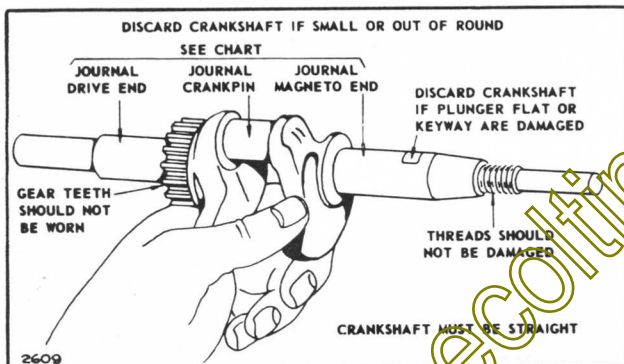

FIGURE 8-1
1. See the crankshaft wear chart. Discard any crankshaft that is worn to less than these sizes. See figure 8-1 for areas to be checked.